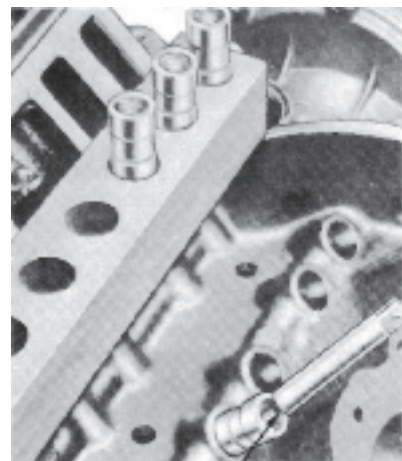

Fig. 17 Removing Valve lifter
5. Using a magnet, remove the valve lifters and place them in a rack so that they can be installed in their original bores (Fig. 17).